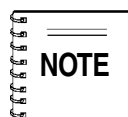

**Figure 4C. 120V Full Power Switch Simplified Diagram (Up Position)**
12. **Full Power Switch** – The generator is provided with a full power switch. Figures 4C and 4D show simplified wiring diagrams of the dual voltage system.